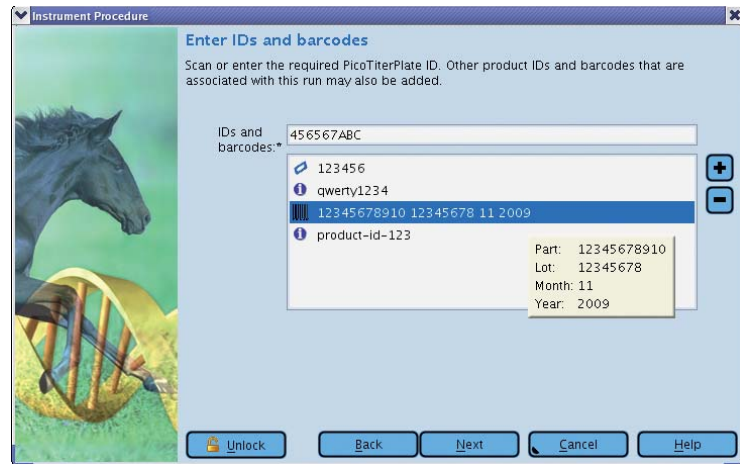

Figure 20: The Run Wizard's second window: Enter IDs and barcodes
▶ This opens the Run Wizard's second window: Enter IDs and barcodes (Figure 20).